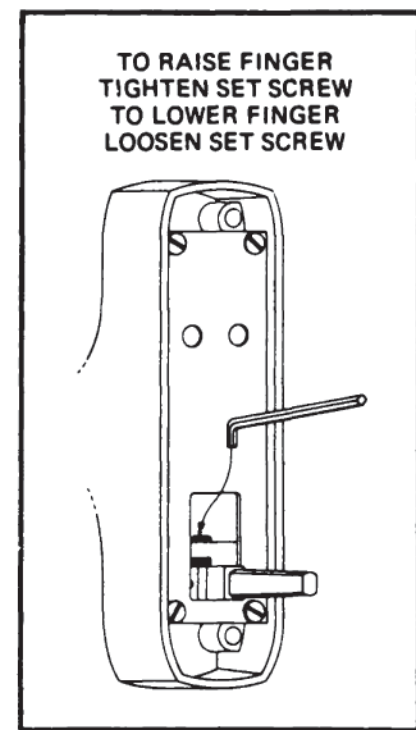

FIG. 4A
B. Adjust lift finger to contact top of rectangular hole in coupling (Fig. 4A).
D. Remove lock stile case and adjust finger if necessary. (Fig. 4A)